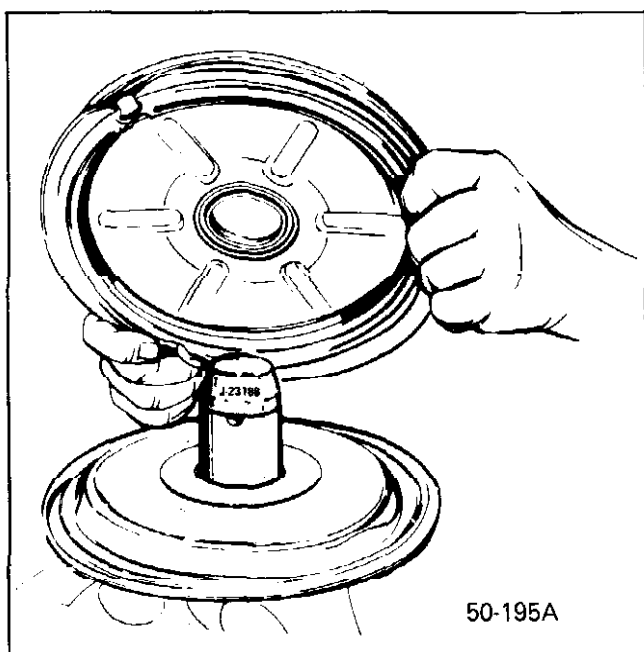

Figure 50-88 Positioning Housing Divider Over Secondary Bearing Protector Tool J-23188
32. Position secondary bearing protector Tool J-23188 on the threaded end of the secondary power piston. See Figure 50-88.